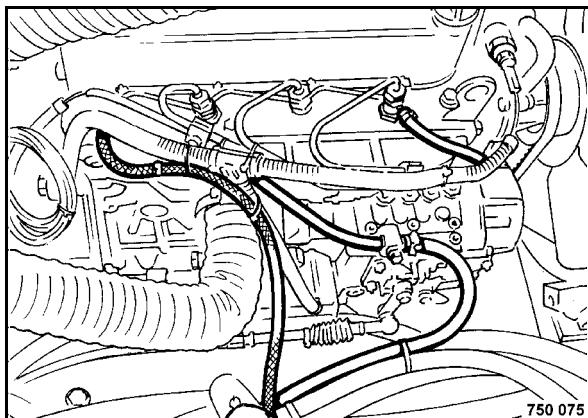

Fig. 131 084
- Replace all fuel hoses (Fig. 131) including their hose clips.